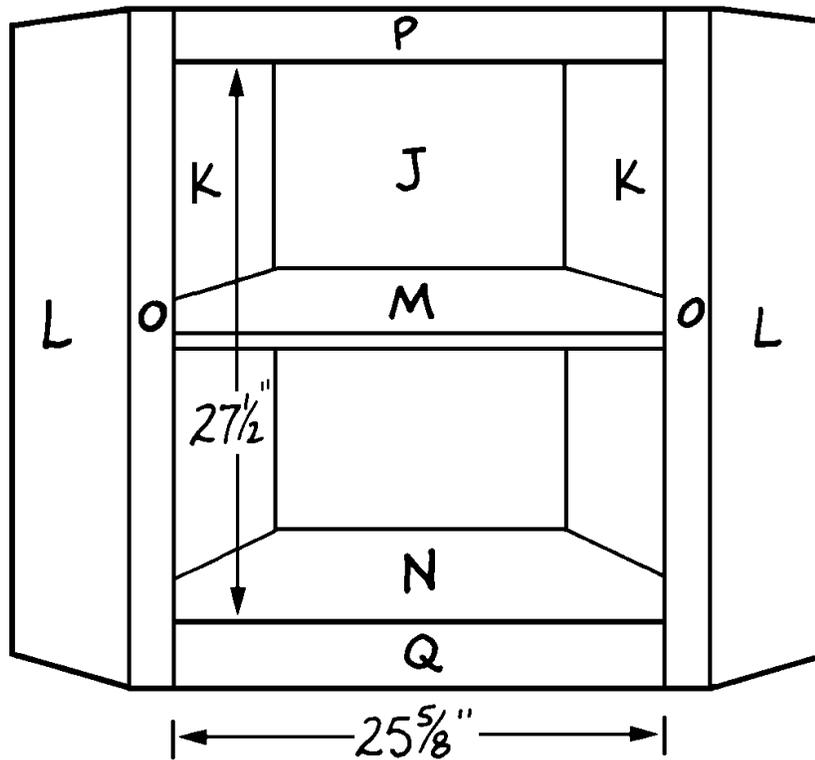

Figure 6
1. Turn the lower cabinet assembly right side up. Cut two lower vertical facers (O) from 1 x 4 pine, each 34-1/2" long.
2. Rip each of the lower vertical facers (O) to 2-1/4" in width.
3. Bevel one 34-1/2"-long edge of each lower vertical facer (O) at 22-1/2 degrees.
4. Note in *Figure 5* that the beveled edge of the lower vertical facer matches the beveled edge of the lower front (L). Attach one lower vertical facer (O) to the left lower front (L), the lower shelf (M), and the lower top (I), as shown in *Figure 6*, using two 3d finishing nails driven in just far enough to hold the pieces in place.
5. Repeat Step 4 to attach the remaining lower vertical facers (O) to the other side of the cabinet assembly.
6. Check the width of the opening between the two lower vertical facers (O) along the exposed edge of the lower floor (N), across the center of the opening, and across the top. The opening should measure exactly 25-5/8". If necessary, remove the two lower vertical facers (O) and alter them to make the opening conform to this measurement. Then glue the two lower vertical facers (O) in place and drive 3d finishing nails, spaced about 4" apart, through the beveled edges of the lower fronts (L) into the edges of the lower vertical facers (O). Also insert 1-1/4" screws through the facers (O). Also insert 1-1/4" screws through the facers (O) into the edges of the lower floor (N) and lower shelf (M).
7. From 1 x 4 pine, cut one 25-5/8" long lower top horizontal facer (P) and one 25-5/8"-long lower bottom horizontal facer (Q).
8. Fit the lower bottom horizontal facer (Q) between the two lower vertical facers (O), positioning it so that its top edge is flush with the upper surface of the lower floor (N). Glue the facer (Q) in place and secure it with 3d finishing nails driven through the facer (Q) and into the edge of the floor (N). Also toenail the ends of the facer (Q) to the edges of the lower vertical facers (O).
- Fit the lower top horizontal facer (P) between the two lower vertical facers (O), so that it is flush at the top. Secure it temporarily by driving two 3d finishing nails through the facer (P) and into the edge of the lower top (I). Hammer the nails in only far enough to hold the piece in place.
- Now measure the opening from top to bottom on the left, middle, and right sides. The opening should measure exactly 27-1/2". If necessary, remove the lower top horizontal facer (P) and alter it so that the opening conforms to this measurement.
- Glue the lower top horizontal facer (P) in place, securing it by driving 3d finishing nails through it and into the edge of the lower top (I). Space the nails about 3" apart. Also toenail the facer by driving nails through its edge and into the lower vertical facers (O).